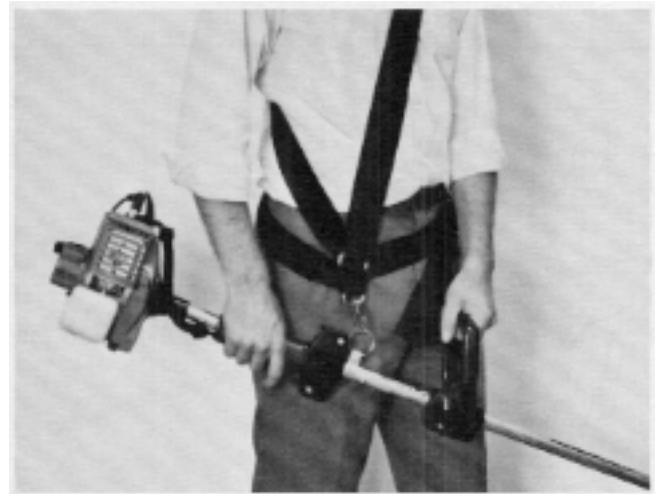

Figure 163
4. (Deluxe Harness Only) Fasten the belt by threading the loose end through the buckle. See Figure 163.